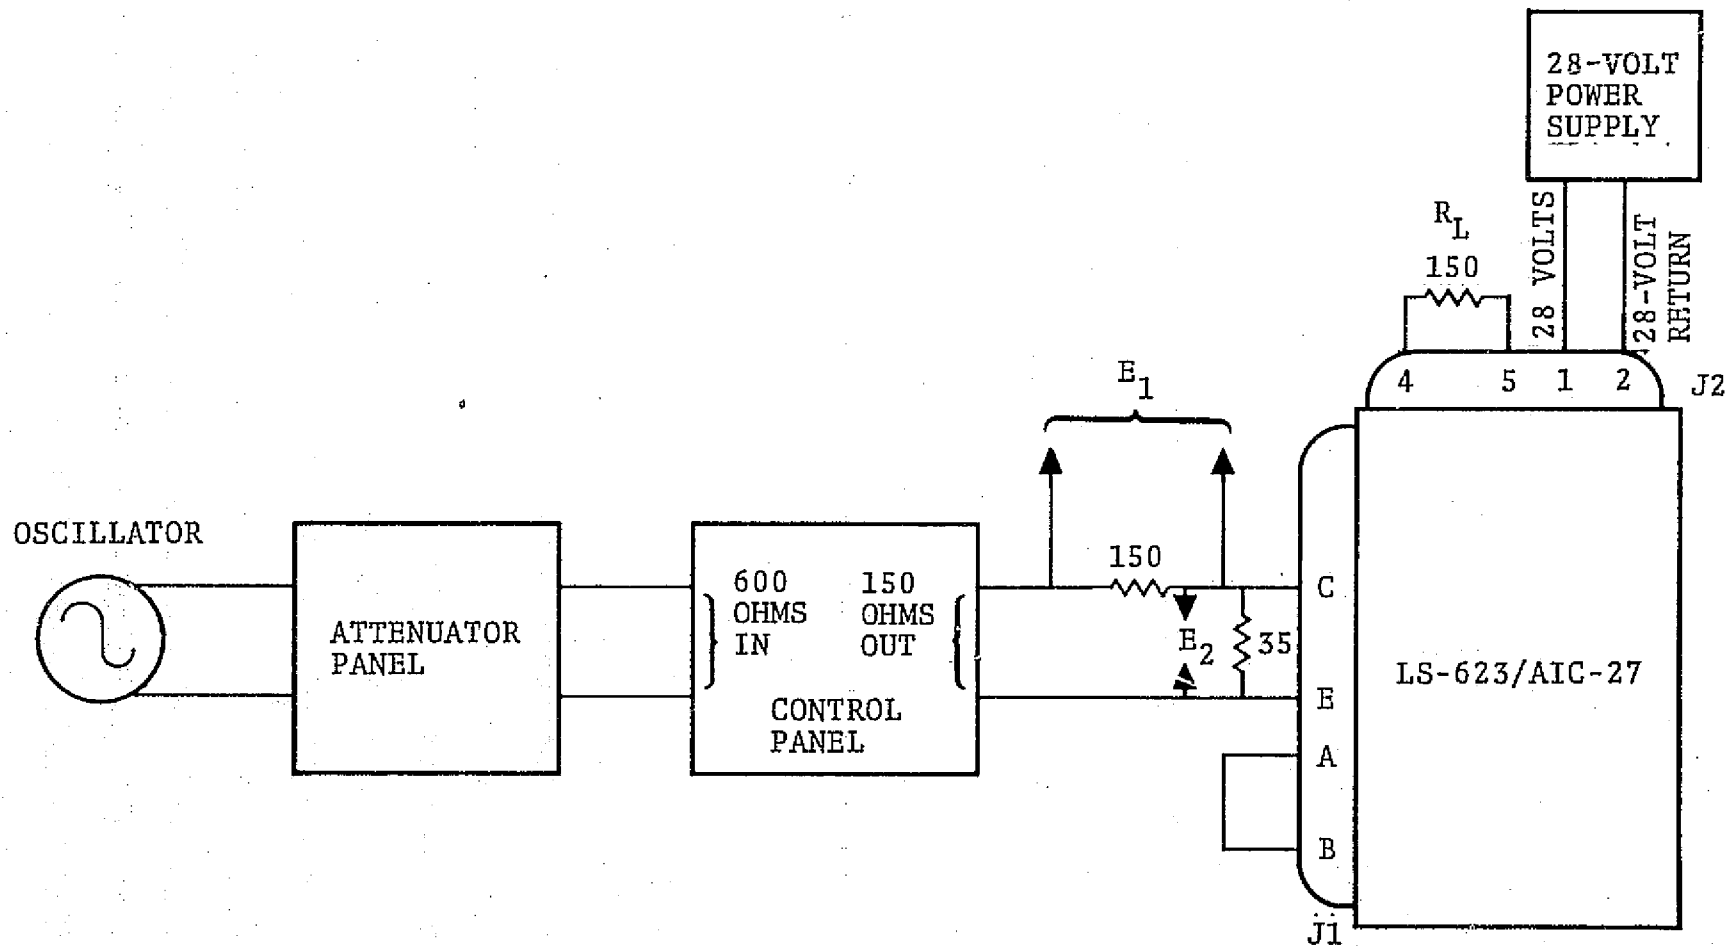

Figure 4-1. — Test setup: transmit section.
1. Connect the equipment as shown in figure 4-1.